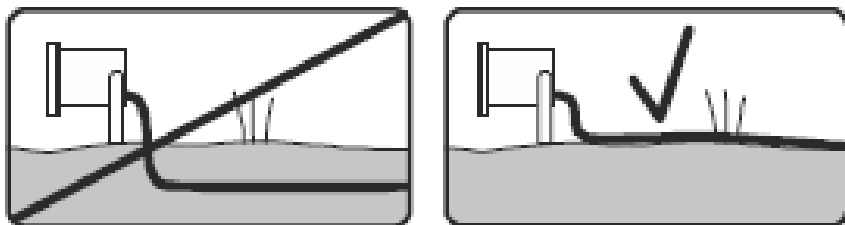

Fig. 1
- The pre-installed cable supplied is for above-ground use only. Cables that are to be routed within walls or below ground must be protected by means of suitable conduit or trunking (see Fig. 1)